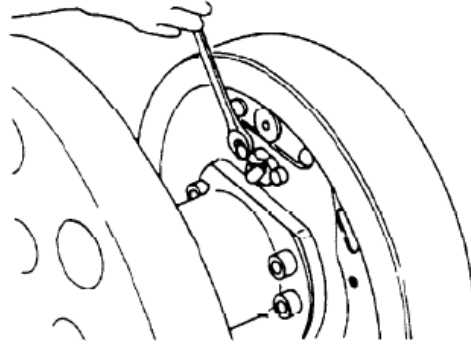

Fig. 2-14
(5) Remove the brake line from the wheel cylinder. Remove wheel cylinder mounting bolts and detach the wheel cylinder from the backing plate. (See Fig. 2-14)